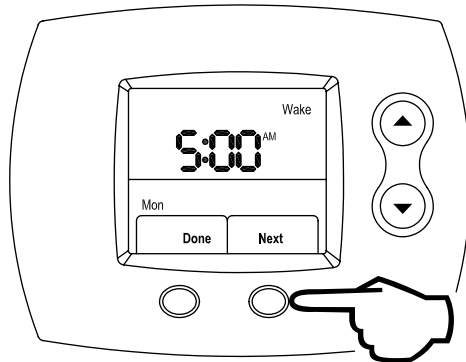

Figure 51
Step 4: Press the **RIGHT** (Next) button to lock in the Wake Period start time, as shown in Figure 51.